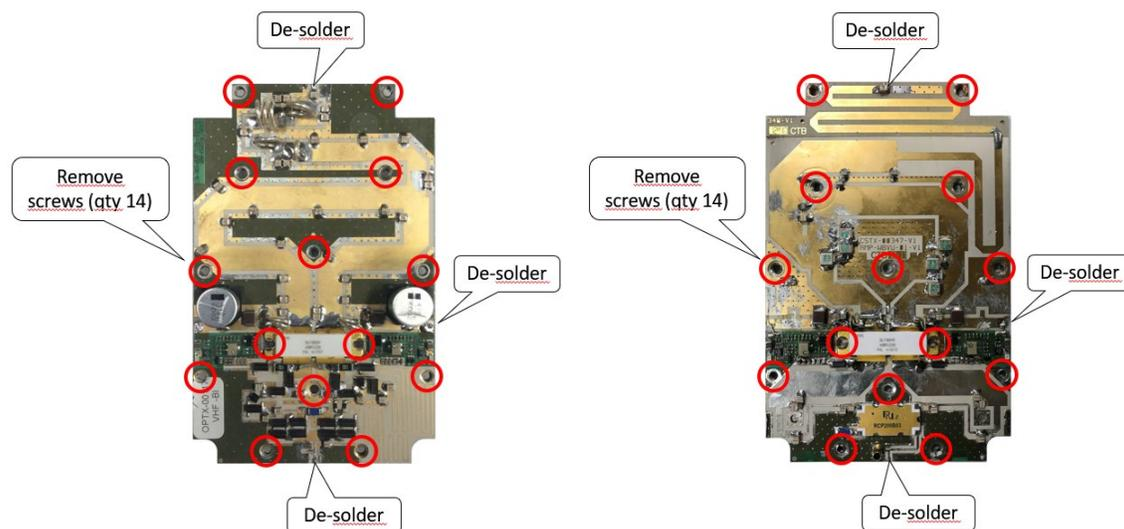

Figure 125: RF pallet removal – Band 1 (left) or Band 3 (right)
STEP 6: Carefully desolder input and output connections at locations shown in Figure 125. Avoid using excess heat that could damage PC board. Use a solder removal tool as required to remove excess solder and jumpers. Discard old jumpers; it is generally necessary to install new jumpers after a pallet is replaced.
STEP 7: Remove fasteners circled in red in Figure 125. Depending on pallet vintage, fasteners may be M4 machine screws or 3 mm hex screws.
STEP 14: Solder connection to the 50V DC input pin, as shown at far right of Figure 125.